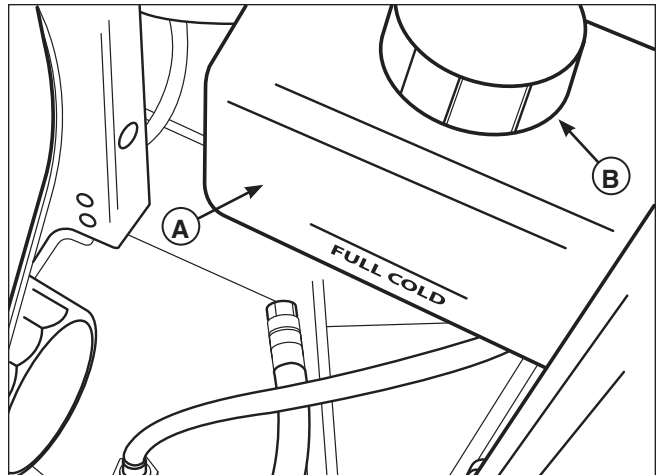

Figure 24. Checking Hydraulic Oil Level
1. Check the oil level when the unit is cold. The oil should be up to the “FULL COLD” mark on the transmission oil reservoirs (A, Figure 24). If the oil is below this level proceed to step 2.